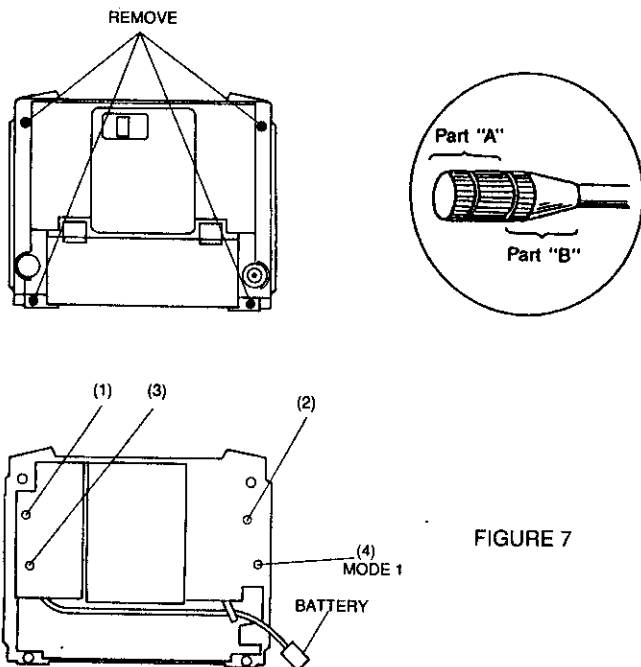

FIGURE 7
To adjust the spring tension, first remove the four rear cover screws as indicated on the sketch below (Figure 7). The rear cover can now be lifted off. Three of the four screws indicated on the right hand sketch of a Mode II transmitter are visible. They control stick tension as follows: (1) Elevator Mode II; (2) Rudder; (3) Aileron; (4) Elevator Mode I. Adjust the screw in for more tension.